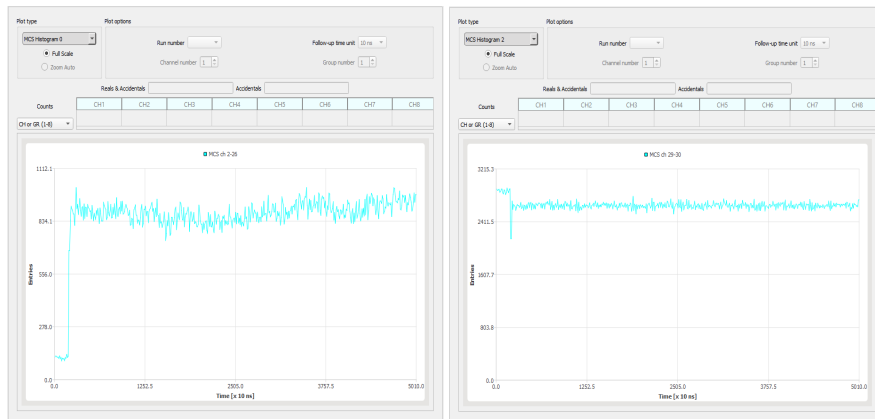

Fig. 2.17: Two different examples of MCS plots. On the left MCS 0 is visible (channels 2-26), while on the right MCS 2 is selected (channels 29-30).
- **Count Rate Plot:** this is a graph showing the measured count rate of the device input channels as a function of time. Up to 8 channels data can be shown at the same time, the range of the channels to visualize can be selected by means of the *Counts* combo box at the top of the plot. Two examples are shown in **Fig.2.17**.